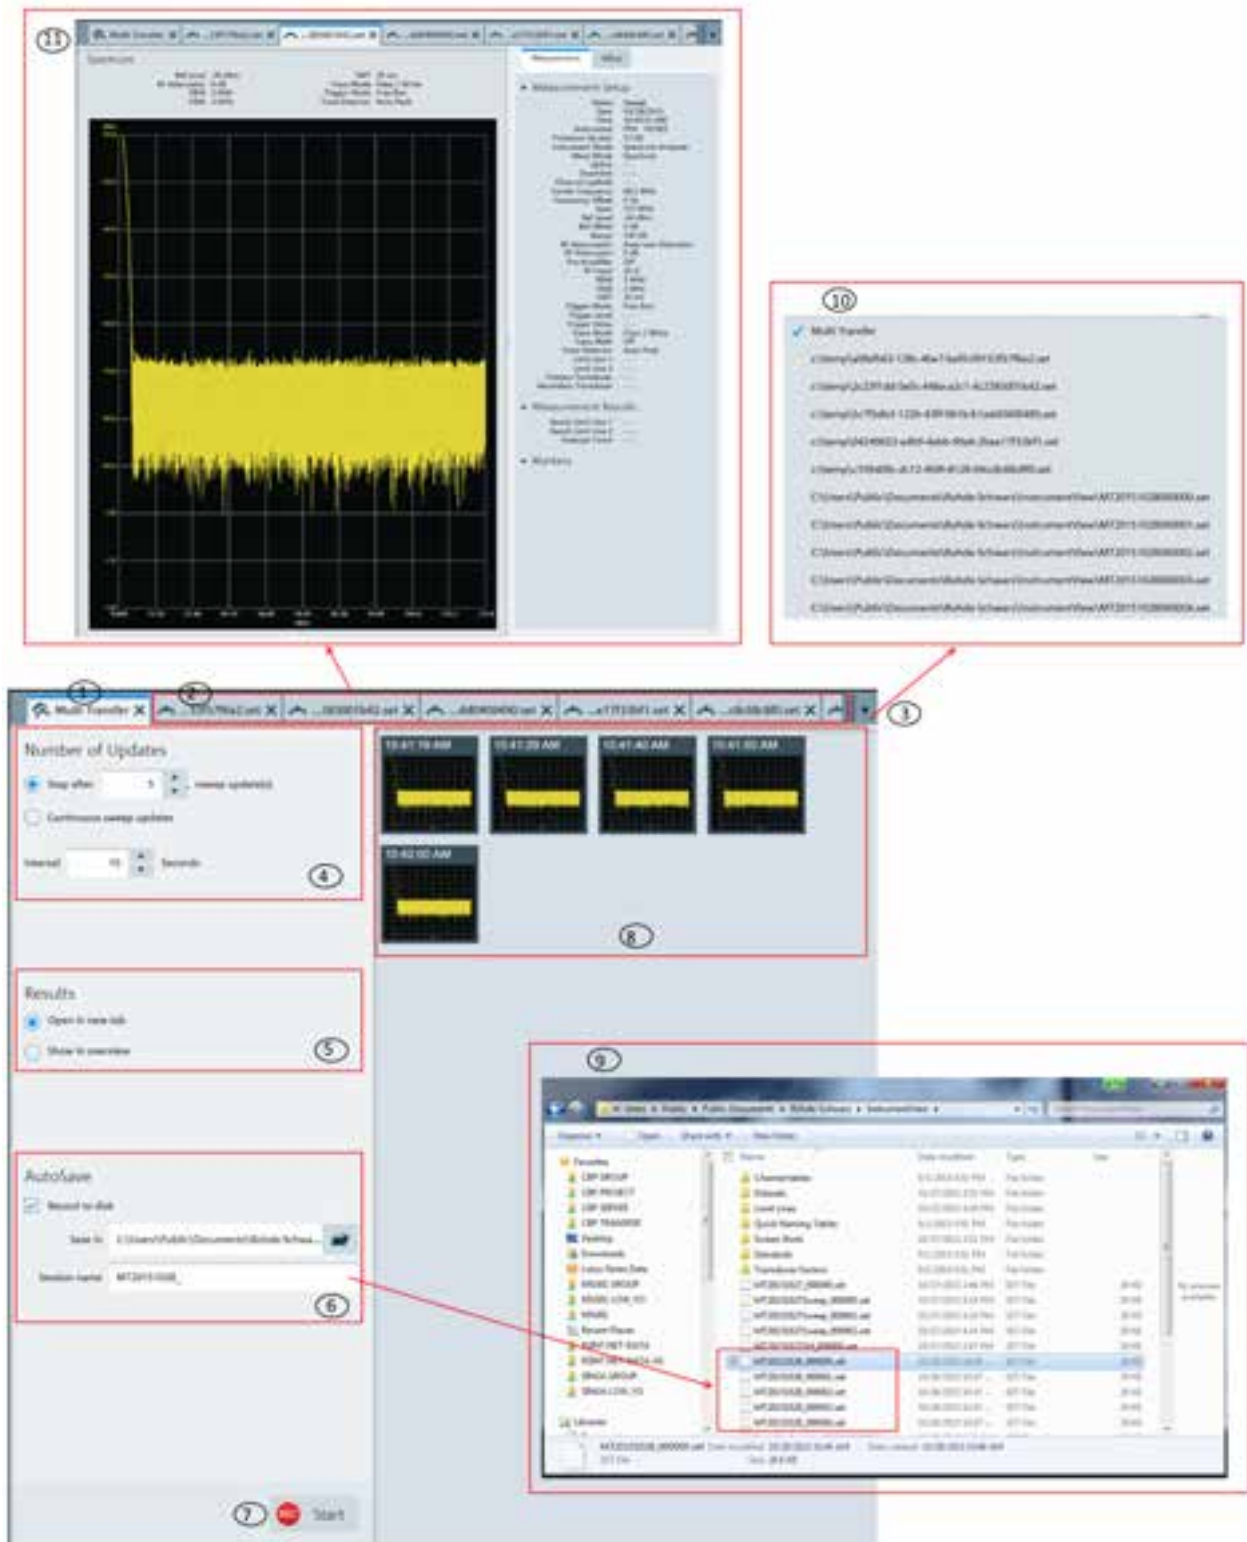

Figure 4-12: Multi-transfer dialog
<p>View the details of the trace measurement file.</p> <p>Only file format with *.set and *.png can be viewed.</p> <p>See index 11 of <a href="#">Figure 4-12</a>.</p>
The "Multi Transfer" menu allows you to capture and save trace measurements from the instrument. See Figure 4-12.
- 2 = Measurement results tab (see index 11 in Figure 4-12)
- Display the trace measurement in the overview area. See index 8 in Figure 4-12.
- Display the individual trace measurement result in the "Tab header bar". See index 2 in Figure 4-12.
See index 11 in Figure 4-12.
See index 9 in Figure 4-12 to view the trace measurements captured in the file directory.
Depending on the setting in the "Results" section (see index 5 in Figure 4-12), the trace measurement updates can be displayed in the overview area (see index 8 in Figure 4-12) or individually displayed as a new tab in the tab header bar (see index 2 in Figure 4-12).